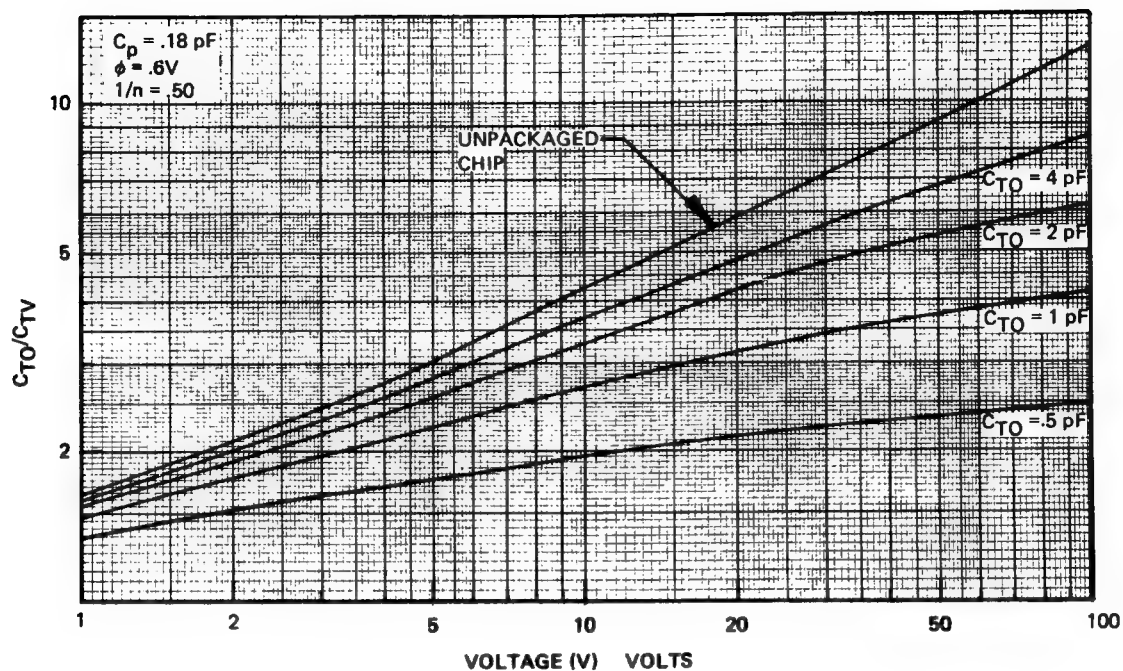

FIGURE 5 CAPACITANCE CHANGE RATIOS FOR SILICON TUNING VARACTORS IN CASE STYLE 30
- Total and capacitance ratios will vary with different packages due to different package parasitics. This is shown by comparison of figures 5 and 6 which allow the determination of total capacitance ratios between any two voltages for the case styles 30 and 54 respectively.